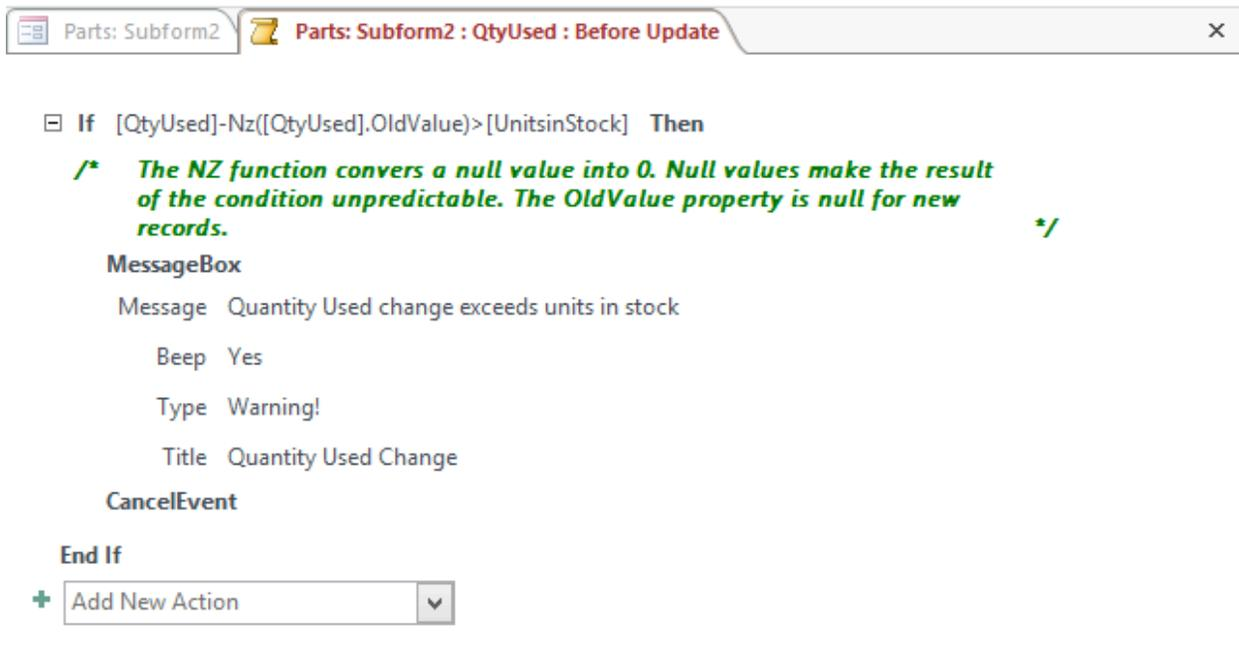

Figure 41: *CancelEvent* Action Specified for the If Action
7. **Add CancelEvent Action:** In Add New Action combo box below the MessageBox action (but still inside the If action), select “CancelEvent”. Figure 41 shows the completed macro. Save the macro when finished and return to the *QtyUsed* Properties window.